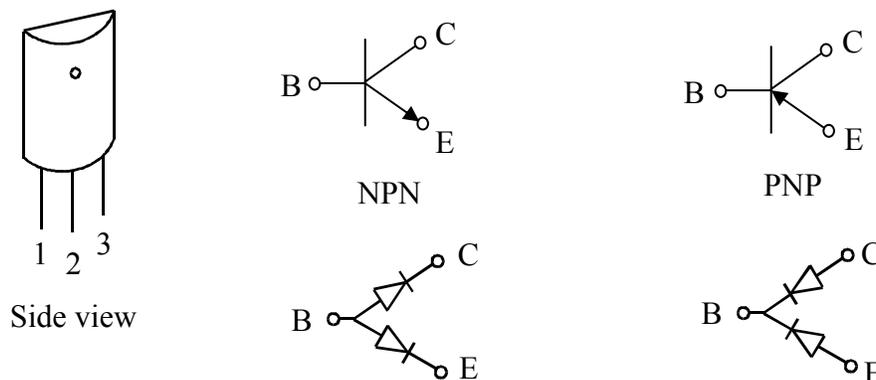

Figure 1. Transistors of type NPN and type PNP
For an NPN transistor, from B to C is a forward-biased diode and from B to E is another forward-biased diode, as shown in Figure 1. For a PNP transistor, from C to B and from E to B are two forward-biased diodes, as shown in the figure. Based on this principle, we can find β as well as to determine the type (NPN or PNP).
c. Based on your analysis of the NPN transistor, identify the Base (B), Emitter (E) and Collector (C) using the pin notation (1, 2 and 3) shown in Figure 1 of the lab manual.	__ / 3
f. Based on your analysis of the PNP transistor, identify the Base (B), Emitter (E) and Collector (C) using the pin notation (1, 2 and 3) shown in Figure 1 of the lab manual.	__ / 3